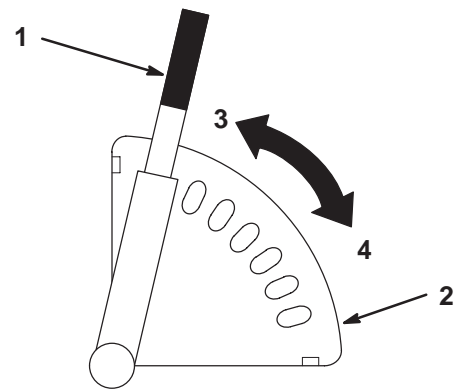

Figure 17
3. Adjust the height-of-cut to the desired level (Fig. 17).
4. Release the lever inward to lock it into the quadrant (Fig. 17).
2. Pull the height of cut lever out to disengage it from the quadrant (Fig. 17).